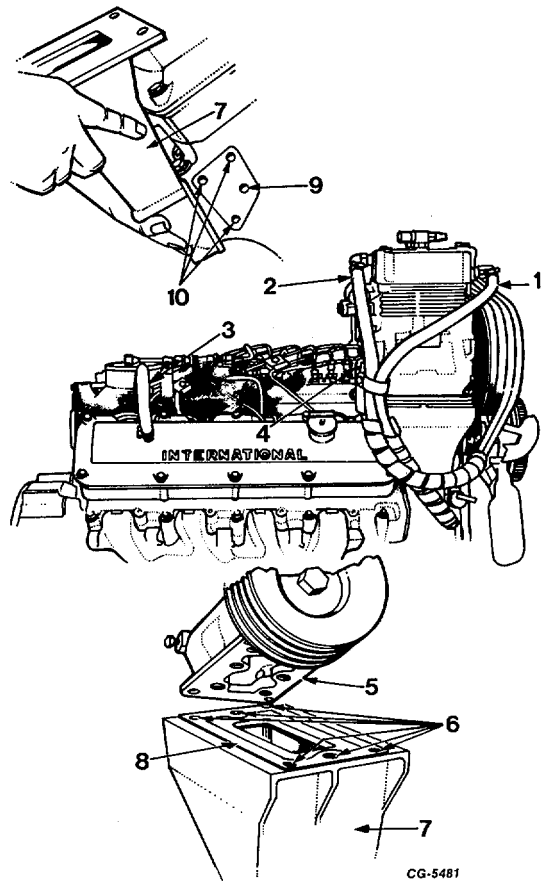

Fig. 16 Removing Air Compressor
5. Remove air compressor water supply hose, water return hose and oil supply pipe (Figure 16).
6. Remove air compressor. The air compressor and mounting bracket may be removed as an assembly by removing three bolts located at the bottom of the bracket or by removing the air compressor from the bracket and then the bracket from the cylinder head (Figure 16).